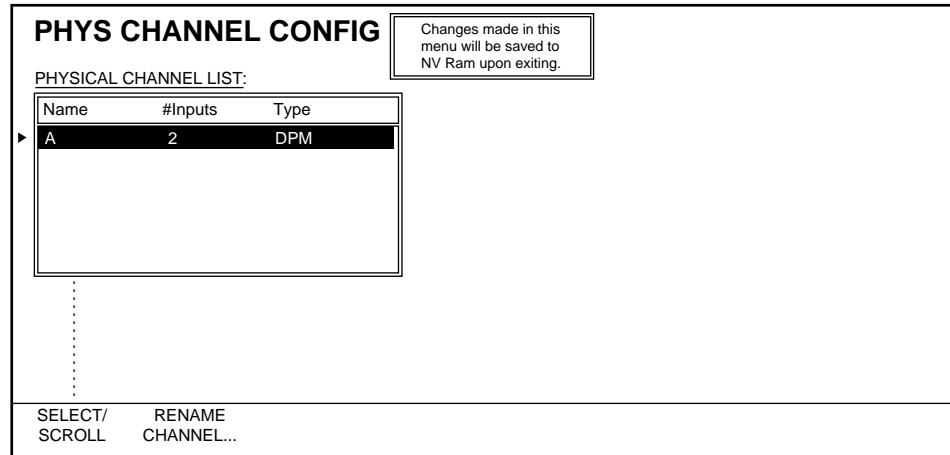
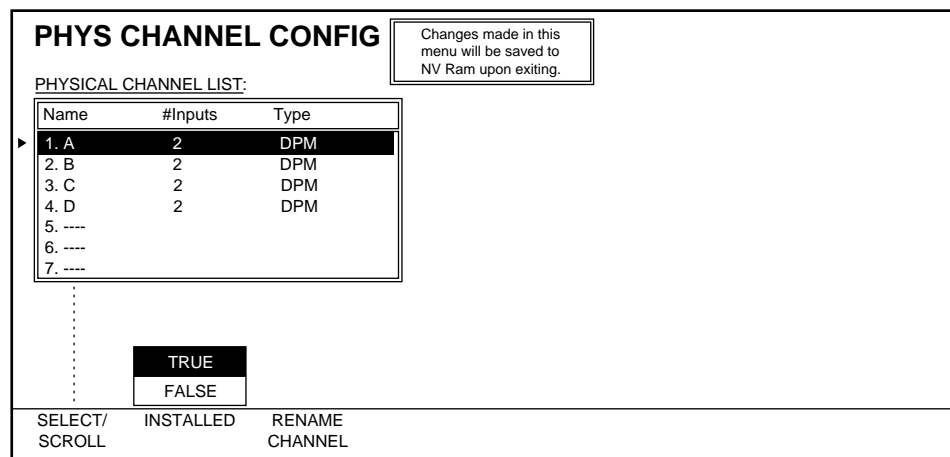

Figure 3-12. Single Channel System
Figure 3-13. Multi-Channel System
1. From the System Configuration menu, press CHANNEL CONFIG > to go to the Physical Channel Configuration menu. Figure 3-12 shows the display for a single channel acquisition, and Figure 3-13 shows a multi-channel acquisition.